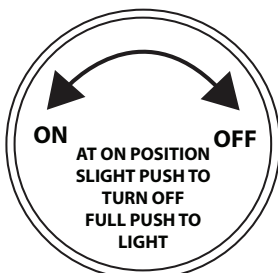

Fig. 10. Gas Valve Knob
2. Rotate control knob on gas valve in the counter clockwise to ON position. (See Fig 10).
2. Depress control knob inward and push the light the burner at the same time. (See Figures 10 & 11).
2. Ensure all shut-off valves and valve is fully open. See page 8; figure 10.